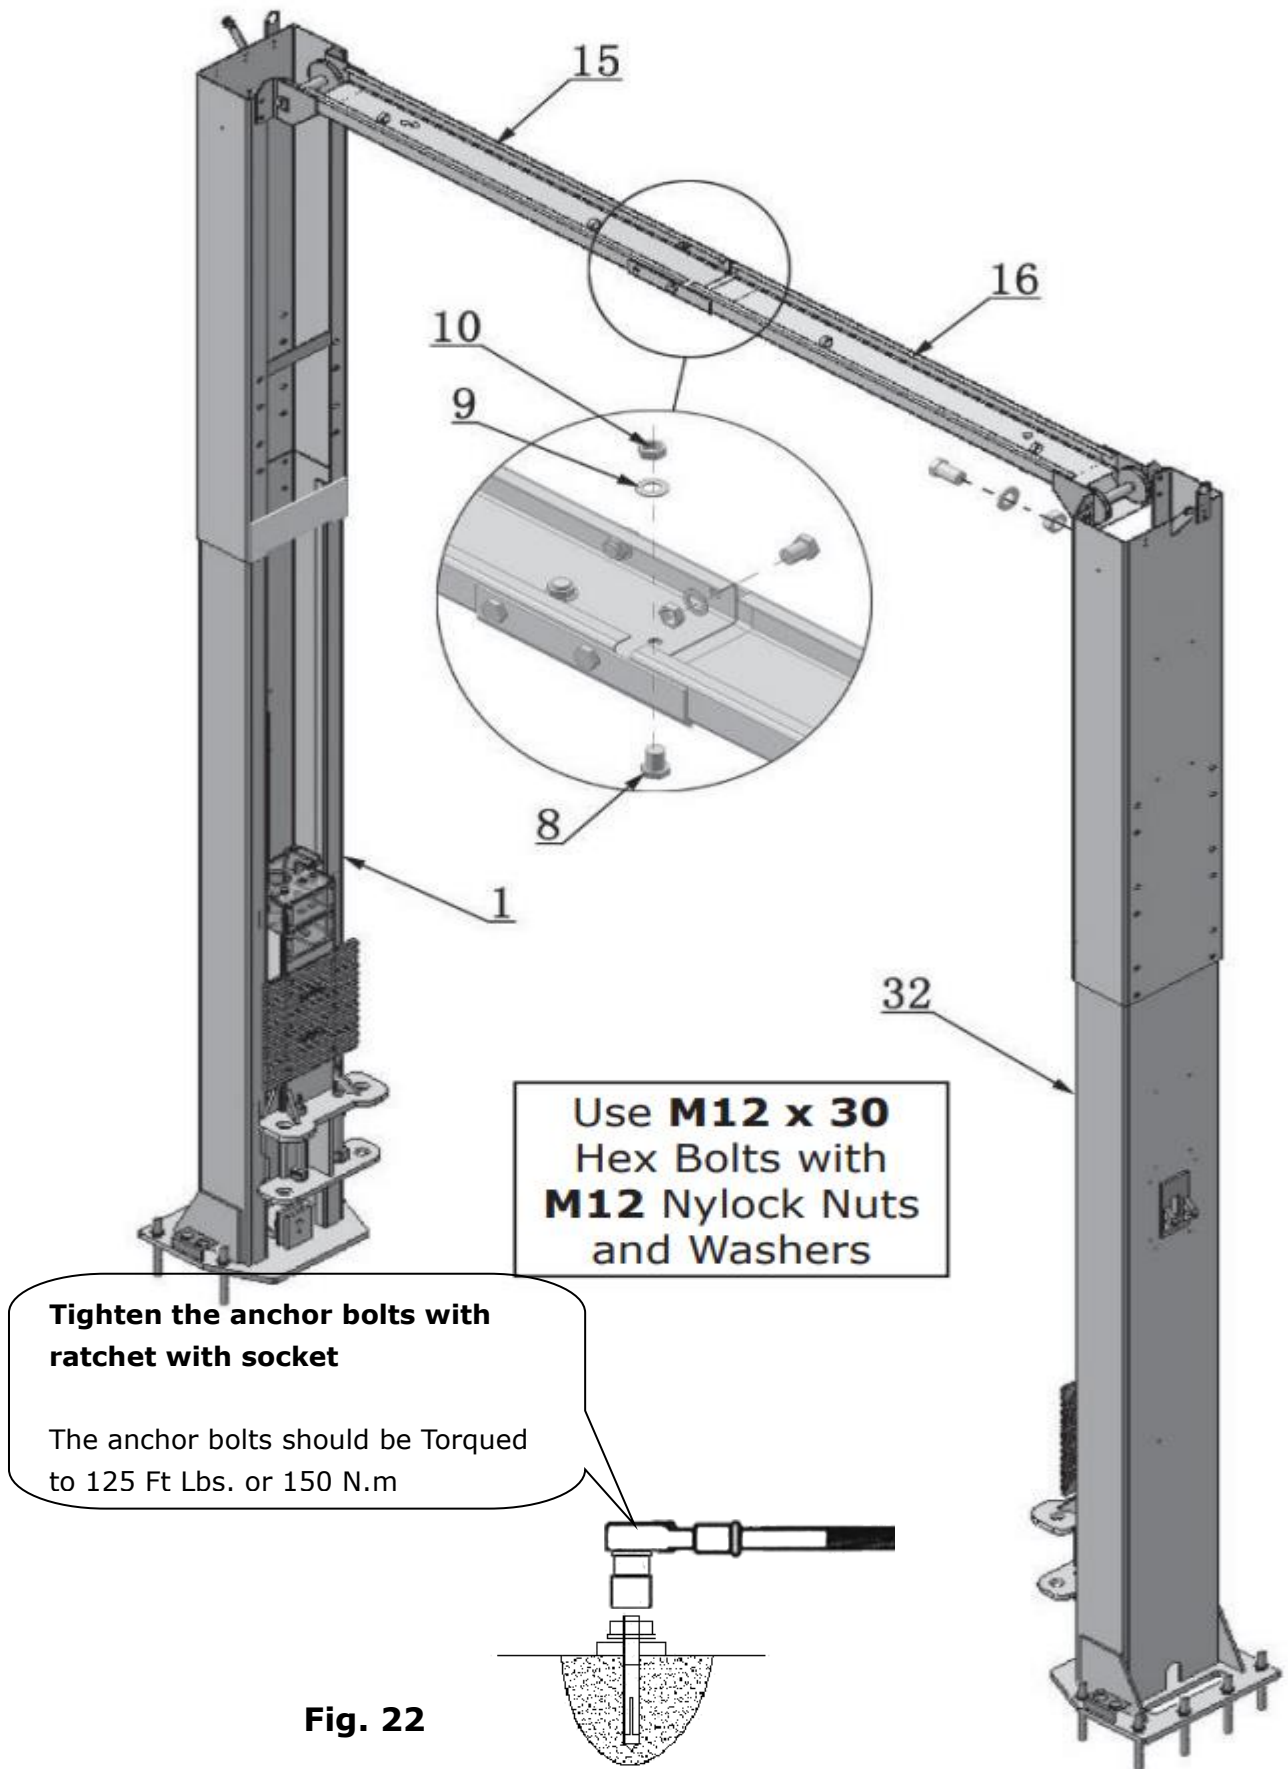

Fig. 22
2. Assemble overhead top beam: tighten the anchor bolts (See Fig. 22).